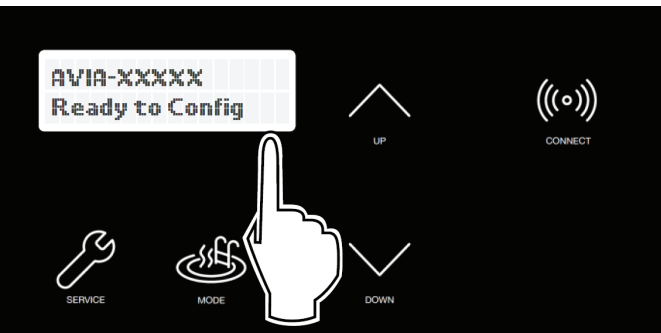

Figure 81. Wi-Fi Ready to Configure and HOTSPOT Identifier
2. The CONNECT menu should display the Wi-Fi State, indicating "Ready to Config" wireless connection, and also the HOTSPOT identifier. See **Figure 81**.
1. In the Raymote app, press the menu button ≡ located at the top left corner of the screen, then press "+ Add new device". See **Figure 81**.